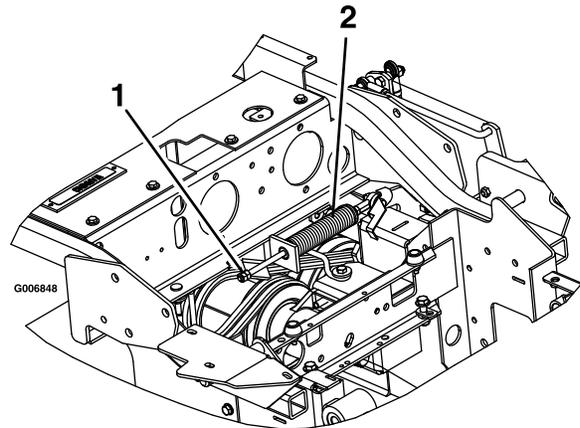

Figure 65
3. Locate the brake spring and thread the 2 jam nuts out to the end of the brake-spring rod (Figure 65).